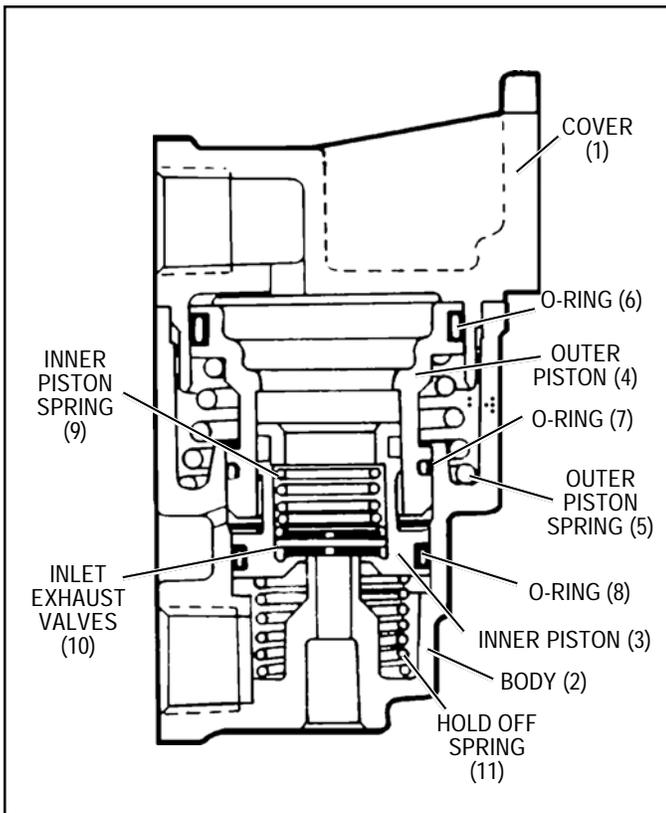
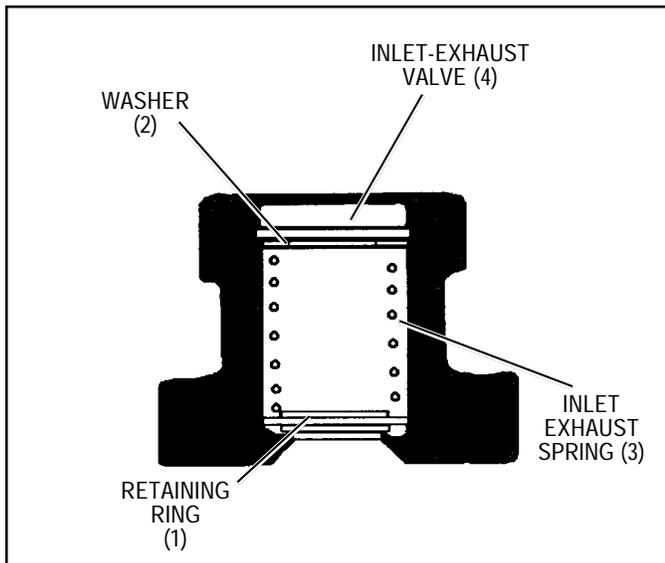

FIGURE 7 - LQ-4™ FRONT AXLE RATIO VALVE
FIGURE 8 - LQ-3™ FRONT AXLE RATIO VALVE INNER PISTON ASSEMBLY
2. Carefully separate the cover (1) (Figure 7) from the body (2) and remove the inner (3) and outer pistons (4). (The cover is under approximately 30 pound load from the outer piston spring.)
3. Remove the outer piston spring (5).
5. Remove the o-ring (6) from the outer piston.
6. Remove the large (8) and small (7) diameter o-ring from the inner piston.
7. (LQ-4™ valve) Remove the inlet exhaust valve spring (9) and inlet exhaust valve (10) from the inner piston. Remove the hold-off spring (11) if present
8. (LQ-3™ valve — Figure 8) Remove the retaining ring (1), washer (2), inlet exhaust valve spring (3), and inlet exhaust valve (4).
1. (LQ-3™ valve — Figure 8) Place the inlet and exhaust valve (4), valve spring (3), and washer (2) in the inner piston. Install the retaining ring (1) in the piston, making certain it is completely seated in its groove.
(LQ-4™ valve — Figure 7) Place the inlet and exhaust valve (10) and spring (9) in the inner piston (3). The spring must be carefully located under the shoulder in the inner piston.
2. Install the large (8) and small (7) diameter o-rings in their grooves on the inner piston.
3. Install the o-ring (6) on the outer piston.
Note: See Figure 7 for proper inner and outer piston configuration after assembly.
5. Place the outer piston spring (5) in the valve body and the hold-off spring (11) if used.
6. Install the inner and outer piston assembly in the body through the spring (see Figure 7).